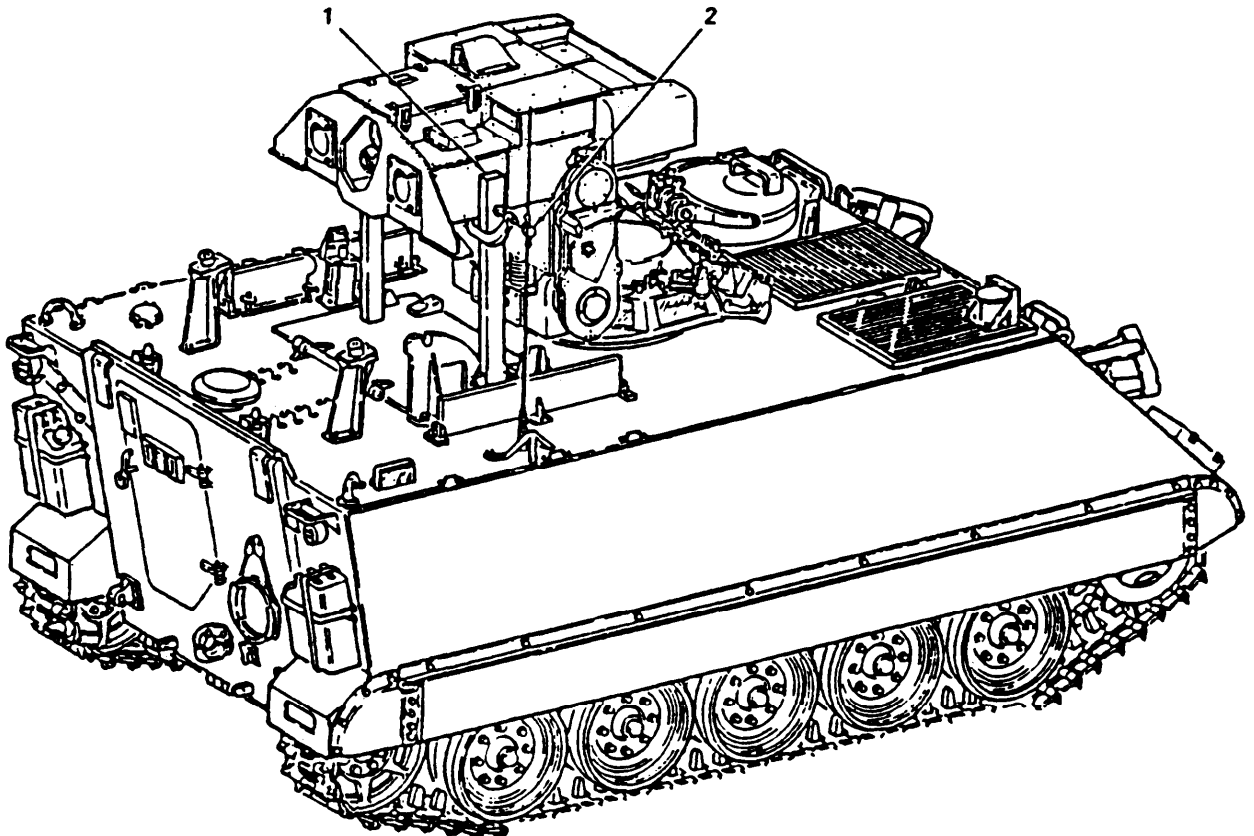

Figure D-1. M901 hydraulic pressure bleed-down
- f. Support front of launcher, using two C-clamps (NSN 5120-00-203-6431) and two 2x4 lumber bracing, as shown in figure D-1.